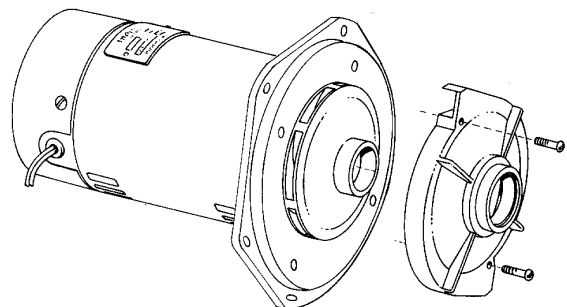

Figure 20 – Remove Diffuser
1. Remove screws fastening diffuser to seal plate; remove diffuser (see Figure 20). Exposed impeller can now be cleaned.